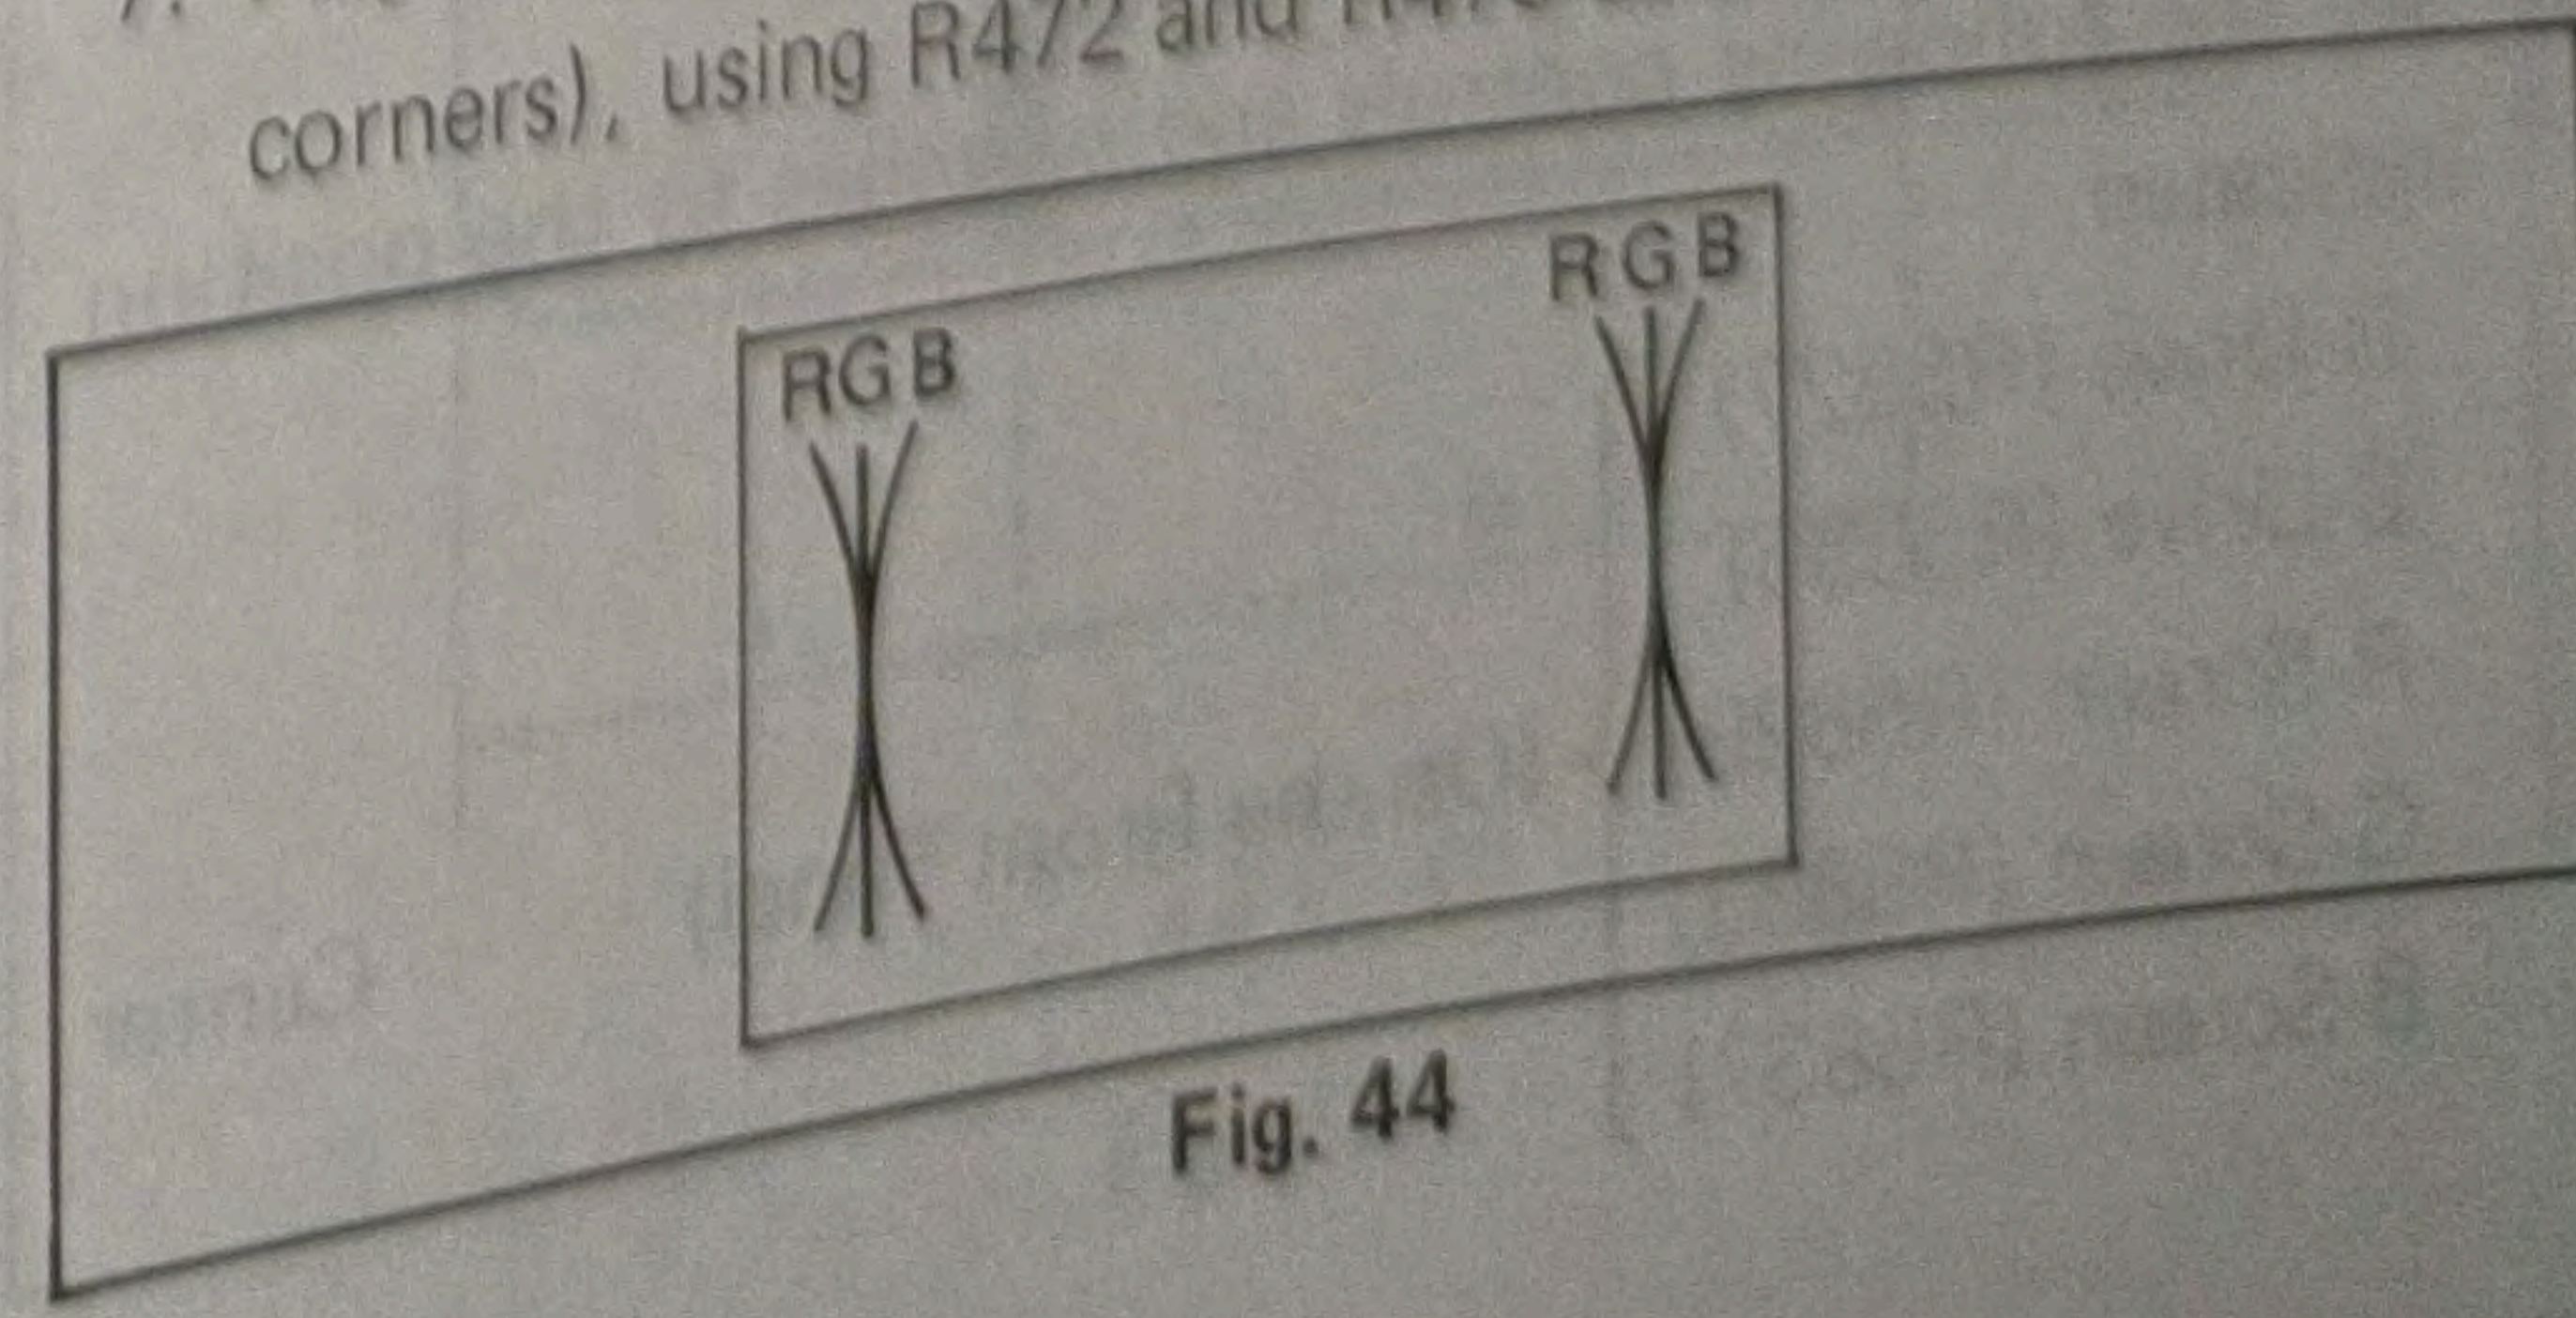

Fig. 44
7. Adjust the convergence of the fringe area (four corners), using R472 and R473 as shown in Fig. 44.